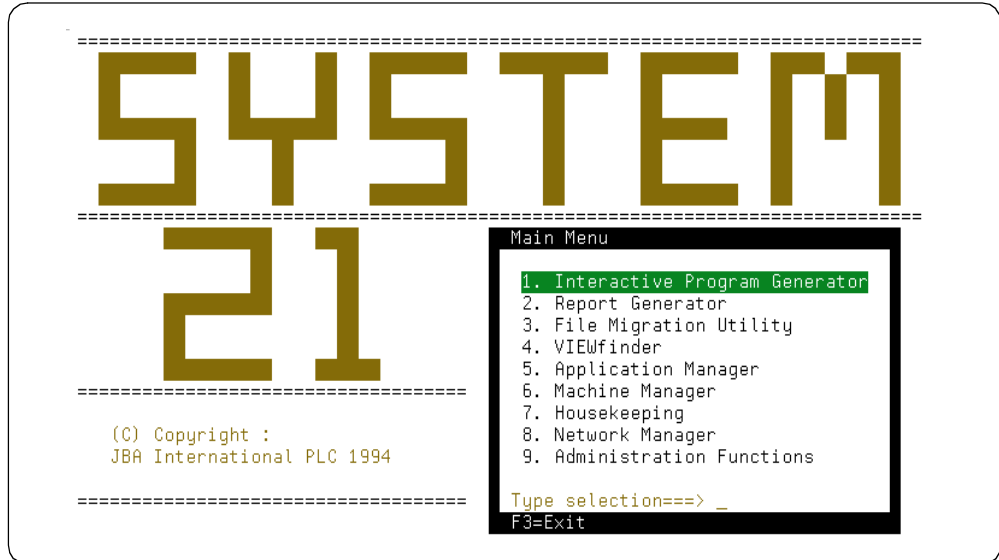

Figure 36. Manager 400
1. Go to the System Manager Main Menu, shown in Figure 36, by entering the following command: